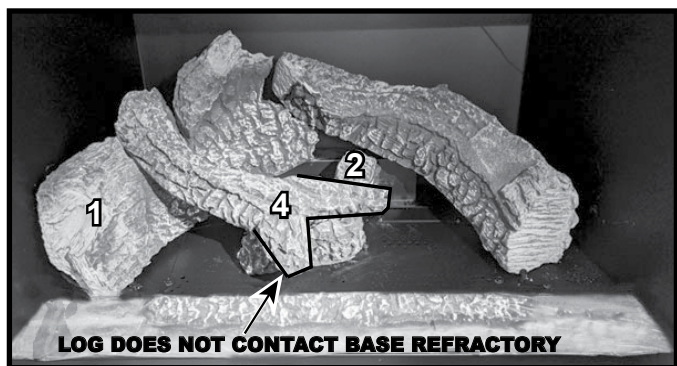

Figure 15 Log #4 Installed
**LOG #4:** Set the non-Y end of Log #4 on the flat spot of Log #1. The end of the log #4 will sit flush with the back of Log #1. The Y-end of log #4 will sit on the flat spot of Log #2. See Figure 15.